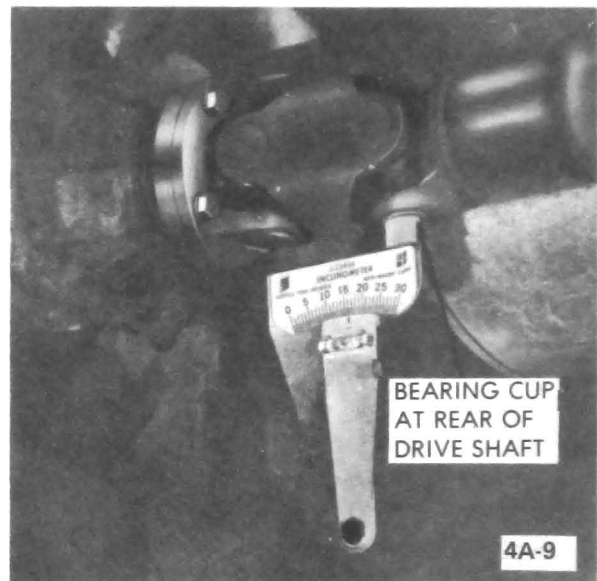

Figure 4A-9 - Measuring Angle at Rear of Propeller Shaft
1. Place inclinometer on rear drive shaft bearing cup. See Figure 4A-9. Center bubble in sight glass and record angle.
2. Place inclinometer on rear flange yoke bearing cup. See Figure 4A-10. Center bubble in sight glass and record angle.